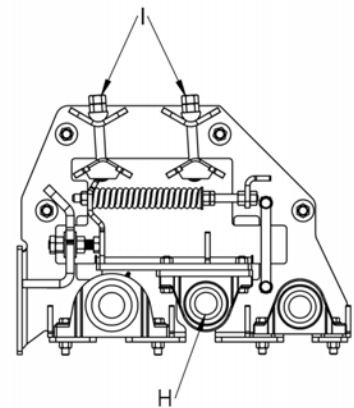

Figure 7-24: Front Grabroll Spacing Adjustment
3. To adjust smooth grabrolls (H), shown in figure 7-24, up or down, use eye bolts (I). Amity recommends adjusting in $\frac{1}{4}$ " increments.